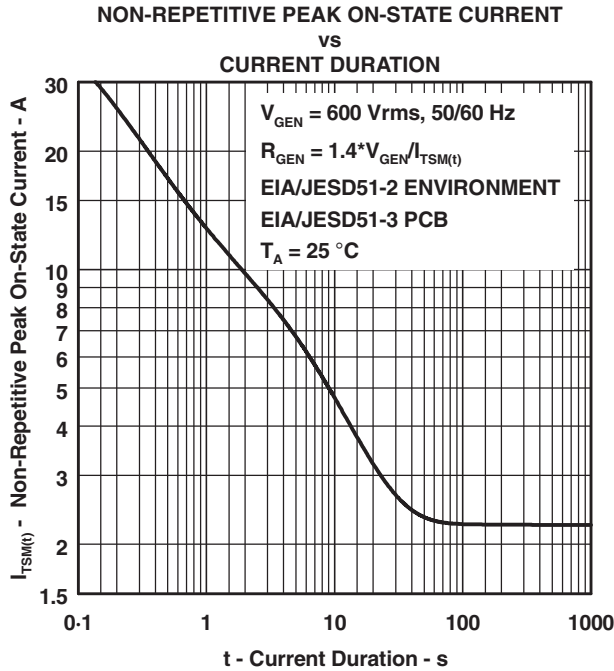

Figure 8.
5. EIA/JESD51-2 environment and EIA/JESD51-3 PCB with standard footprint dimensions connected with 5 A rated printed wiring track widths. See Figure 8 for the current ratings at other durations. Derate current values at $-0.61\%/\text{C}$ for ambient temperatures above 25°C .
The protector can withstand currents applied for times not exceeding those shown in Figure 8. Currents that exceed these times must be terminated or reduced to avoid protector failure. Fuses, PTC (Positive Temperature Coefficient) resistors and fusible resistors are overcurrent protection devices which can be used to reduce the current flow. Protective fuses may range from a few hundred milliamperes to one ampere. In some cases, it may be necessary to add some extra series resistance to prevent the fuse opening during impulse testing. The current versus time characteristic of the overcurrent protector must be below the line shown in Figure 8. In some cases, there may be a further time limit imposed by the test standard (e.g. UL 1459 wiring simulator failure).